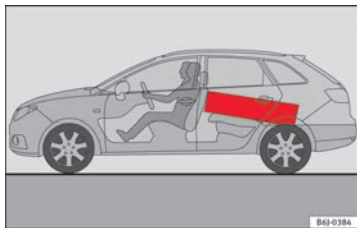

Fig. 97 Position heavy items as far forward as possible.
- Position heavy items as far forward as possible ⇒ Fig. 97.